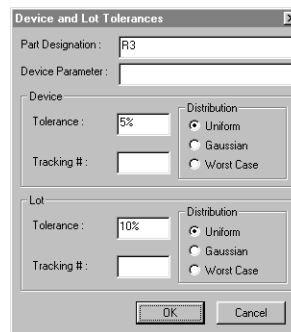

Figure 6.32. Use this dialog box to enter device and lot tolerances.
- 2 Enter the appropriate information in the various fields (see Figure 6.32).